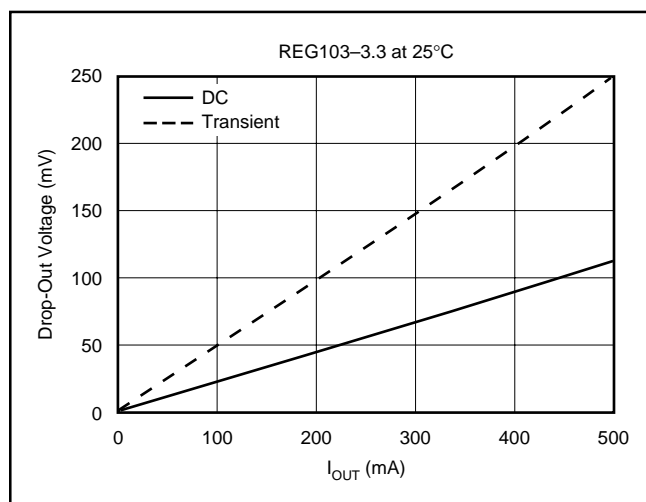

FIGURE 10. Transient and DC Drop-out.
The REG103 uses an N-channel DMOS as the “pass” element. When the input voltage is within a few hundred millivolts of the output voltage, the DMOS device behaves like a resistor. Therefore, for low values of V_{IN} to V_{OUT} , the regulator’s input-to-output resistance is the $R_{DS(ON)}$ of the DMOS pass element (typically 230mΩ). For static (DC) loads, the REG103 will typically maintain regulation down to V_{IN} to V_{OUT} voltage drop of 115mV at full-rated output current. In Figure 10, the bottom line (DC dropout) shows the minimum V_{IN} to V_{OUT} voltage drop required to prevent drop-out under DC load conditions.
For large step changes in load current, the REG103 requires a larger voltage drop across it to avoid degraded transient response. The boundary of this “transient drop-out” region is shown as the top line in Figure 10. Values of V_{IN} to V_{OUT} voltage drop above this line insure normal transient response.